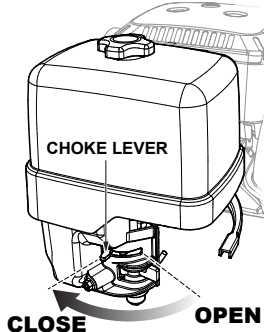

Figure 11. Engine Choke Lever (Closed)
3. Place the choke lever (See Figure 11) in the **CLOSED** position if starting a cold engine.